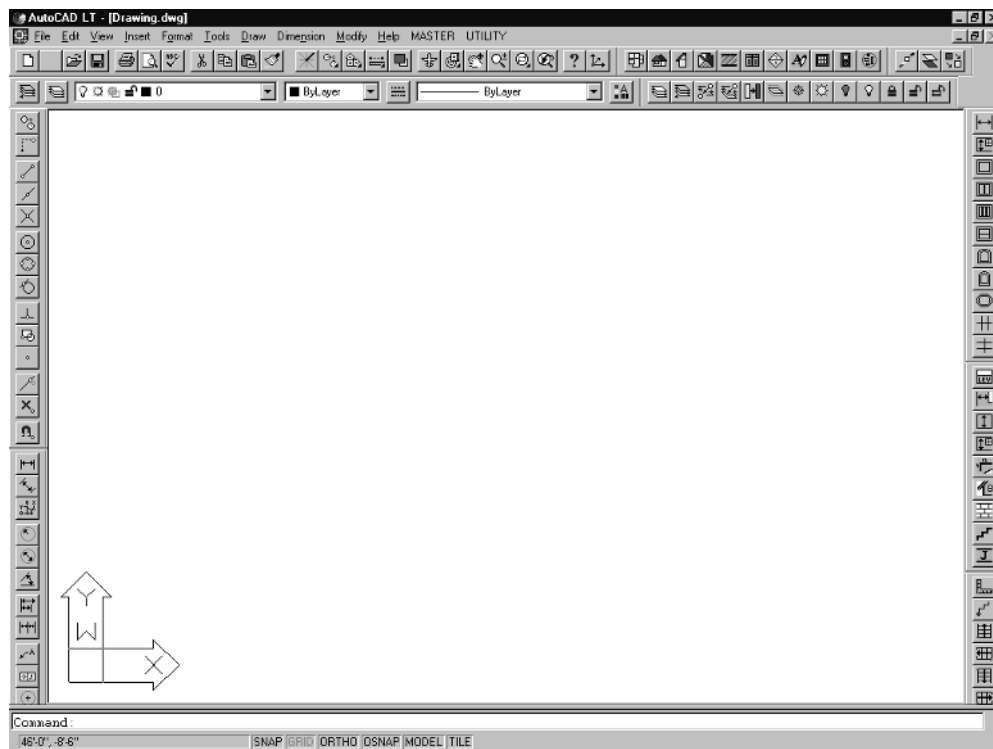

Figure 1-16
1. First, select the **Start from Scratch** button on the Start Up or Create New Drawing dialog. There are two options available to you: English or Metric units. If you are using imperial units, select **English**. If you are using metric units, select **Metric**. Then press the **OK** button. The graphics screen will come up with a completely blank drawing, as shown in Figure 1-16. It is necessary to set up this new drawing so that you can begin using it for architectural work. The following sections will guide you through this process.